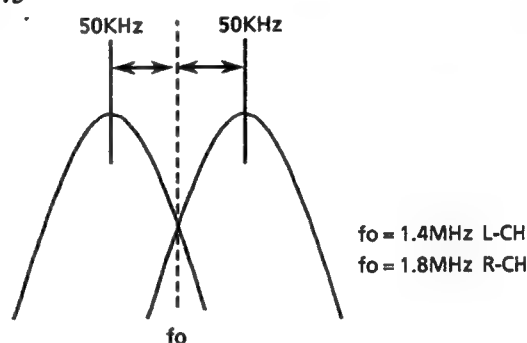

Figure 2-22.
2. Observe TP6309 [TP6310] (Hi-Fi unit) and TP6306 (GND) signals by the spectrum-analyser, and adjust R6362 [R6374] so that the spectrum-analyser reads 50 ± 5kHz. (as shown in Figure 2-22)